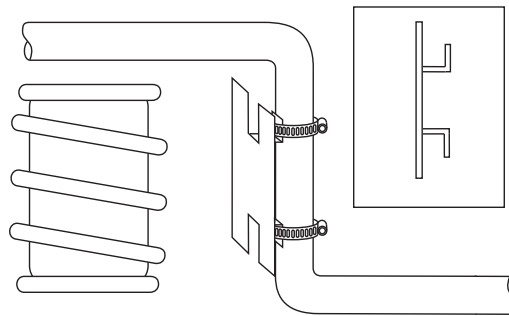

fig. 22
4. Bend the heat shield tab out at a 90° angle and again half the distance up at a 90° angle to form an “L” shape. Repeat on the other tab (Fig. 22). Position heat shield and insert the heat shield tabs beneath the two radiator clamps. Tighten the clamps (Fig. 22).